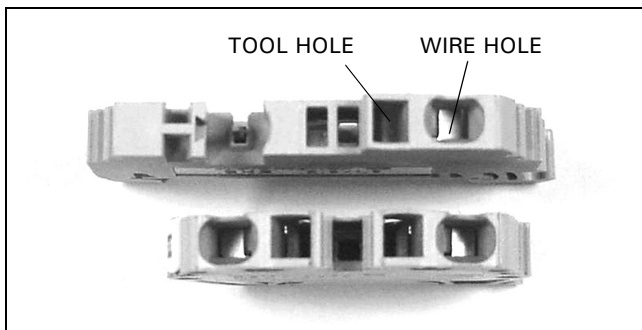

Figure 23. Tension Clamp Terminal Blocks.
Step 1: Figure 23 shows two tension clamp terminal blocks. There is a large one and small one, but the operation is the same for both. A small tool, such as a blade screwdriver, will be pushed into the square hole next to the wire hole and a wire will be inserted into the larger circular hole on the outer edge.